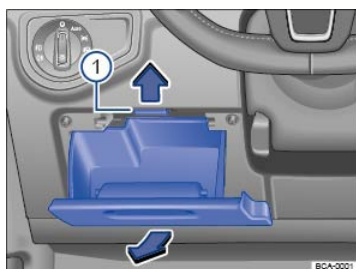

Fig. 206 On the driver side in the instrument panel: Fuse box cover.
- With one hand, press the rubber release ① tab up at the top of the storage compartment to release the fuse box cover. The cover should open easily.
- To *install*, fit the cover on the hinges at the bottom of the opening. Guide the cover into the instrument panel by pushing in the direction opposite of the arrow until it latches into place ⇒ *Fig. 206*.